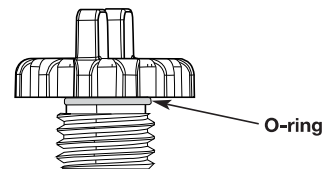

Fig. 23
5. Make sure the O-ring is in place on the oil fill plug (Fig. 23).
7. Make sure the O-ring is in place on the oil fill plug (Fig. 23).